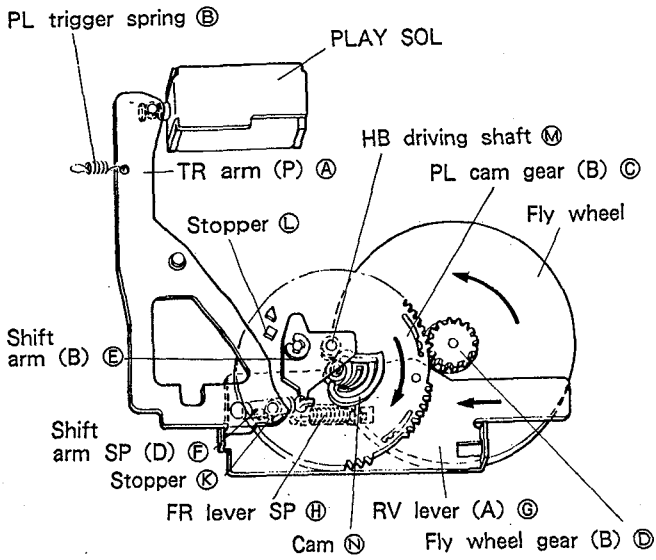

Fig. 8-3
1.2 STOP → FWD PLAY (Refer to Fig. 8-3.)
(Refer to Fig. 8-3.)